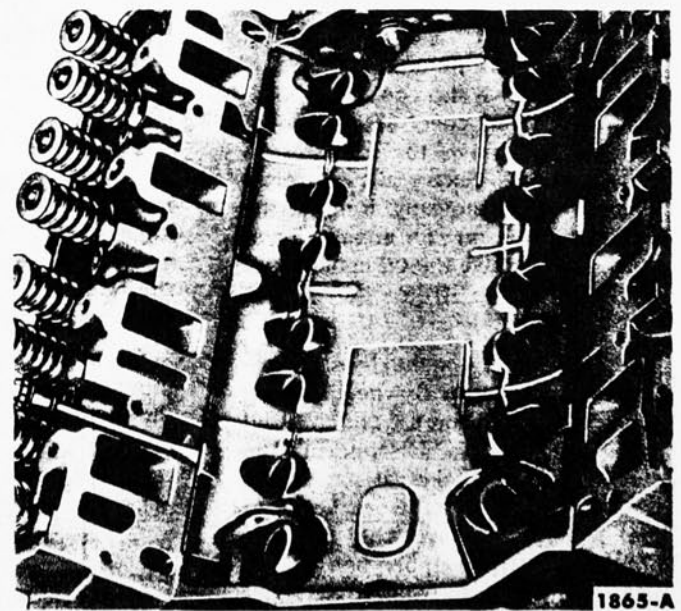

FIG. 16—Baffle Plate Removal
10. Remove the baffle plate from the valve push rod chamber floor by prying up on the baffle with a screwdriver (Fig. 16).